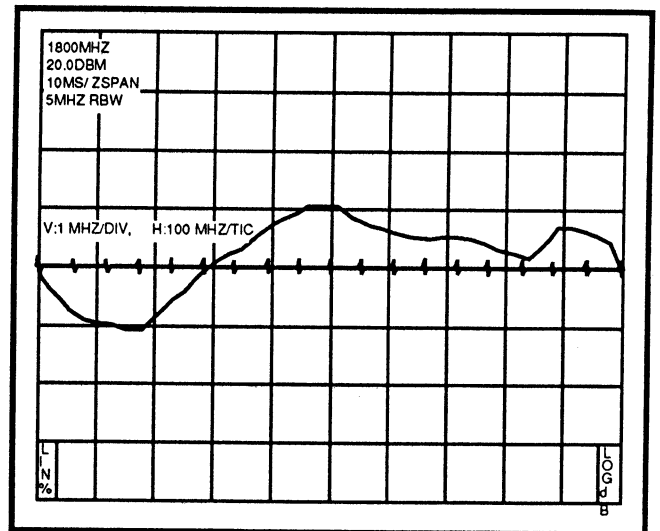

Figure 4-6. 1st LO balance curve.
p. Press UTIL MENU/#5 (INSTR DIAGNOSTICS/ADJUSTMENTS)/#2 (MANUAL ADJUSTMENTS)/#6 (YIG (1st LO) ACCURACY TEST) to check for proper 1st LO balance. The Spectrum Analyzer should draw a reference line at center screen and a curve of the oscillator balance. See Figure 4-6 for a typical plot. The curve should be centered about the reference line and be within 4 major divisions of the reference line. If not, repeat all of step 7.